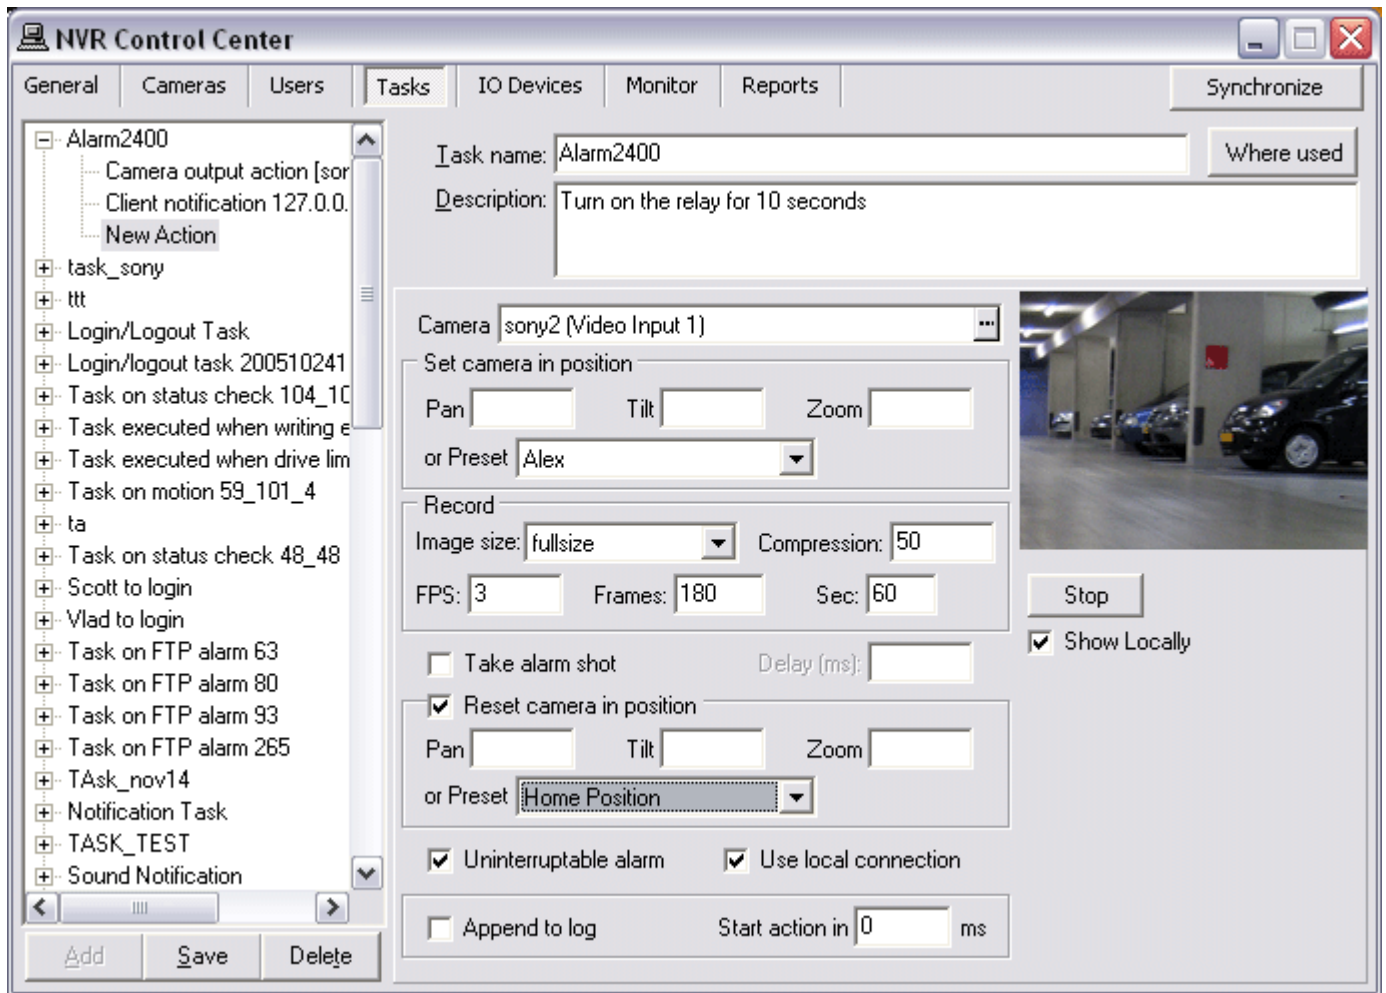

Fig 75. NVR Control Center — Tasks
1. In the **Record** section setup alarm video quality and duration (Fig 75) —